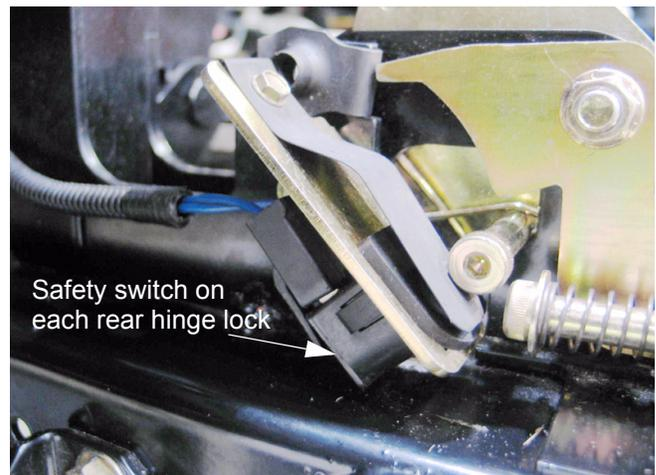

Figure 11.3
- 11.3. The Safety switch that is mounted to each rear hinge lock prevents the electric PTO from engaging when the wings are not latched in the down position. See Figure 11.3.